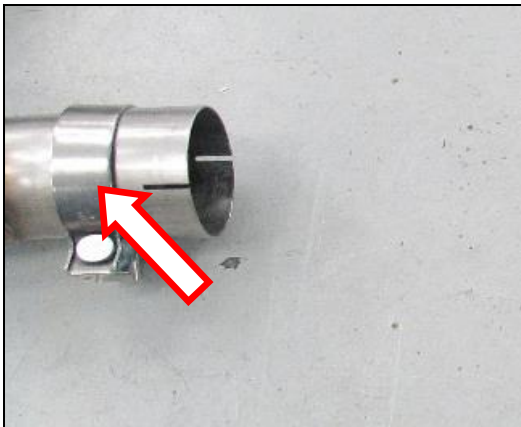

Figure 8
3. Slide the other 3" band clamp on to the Blackheart muffler (**Figure 8**).